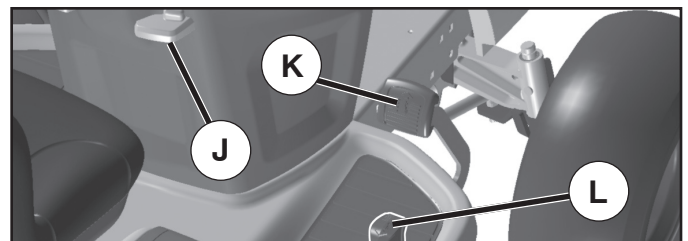

Fig. 17
TO MOVE FORWARD AND BACKWARD (See Fig. 17)
- Slowly depress forward (K) or reverse (L) drive pedal to begin movement. Ground speed increases the further down the pedal is depressed.
TO USE CRUISE CONTROL (J) (See Fig. 17)